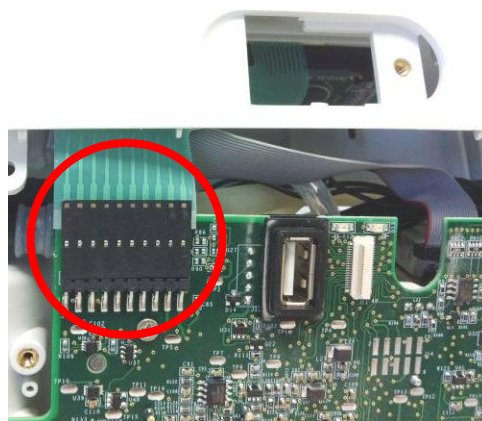

Figure 3: Unplug UIP cable from motherboard
2. Gently pull upward on the user interface panel to lift it about a centimeter off the device, being careful not to pull on the cables that are connected to the user interface panel. With the UIP cable connector exposed on the motherboard, gently unplug the UIP cable from the motherboard (Figure 3).